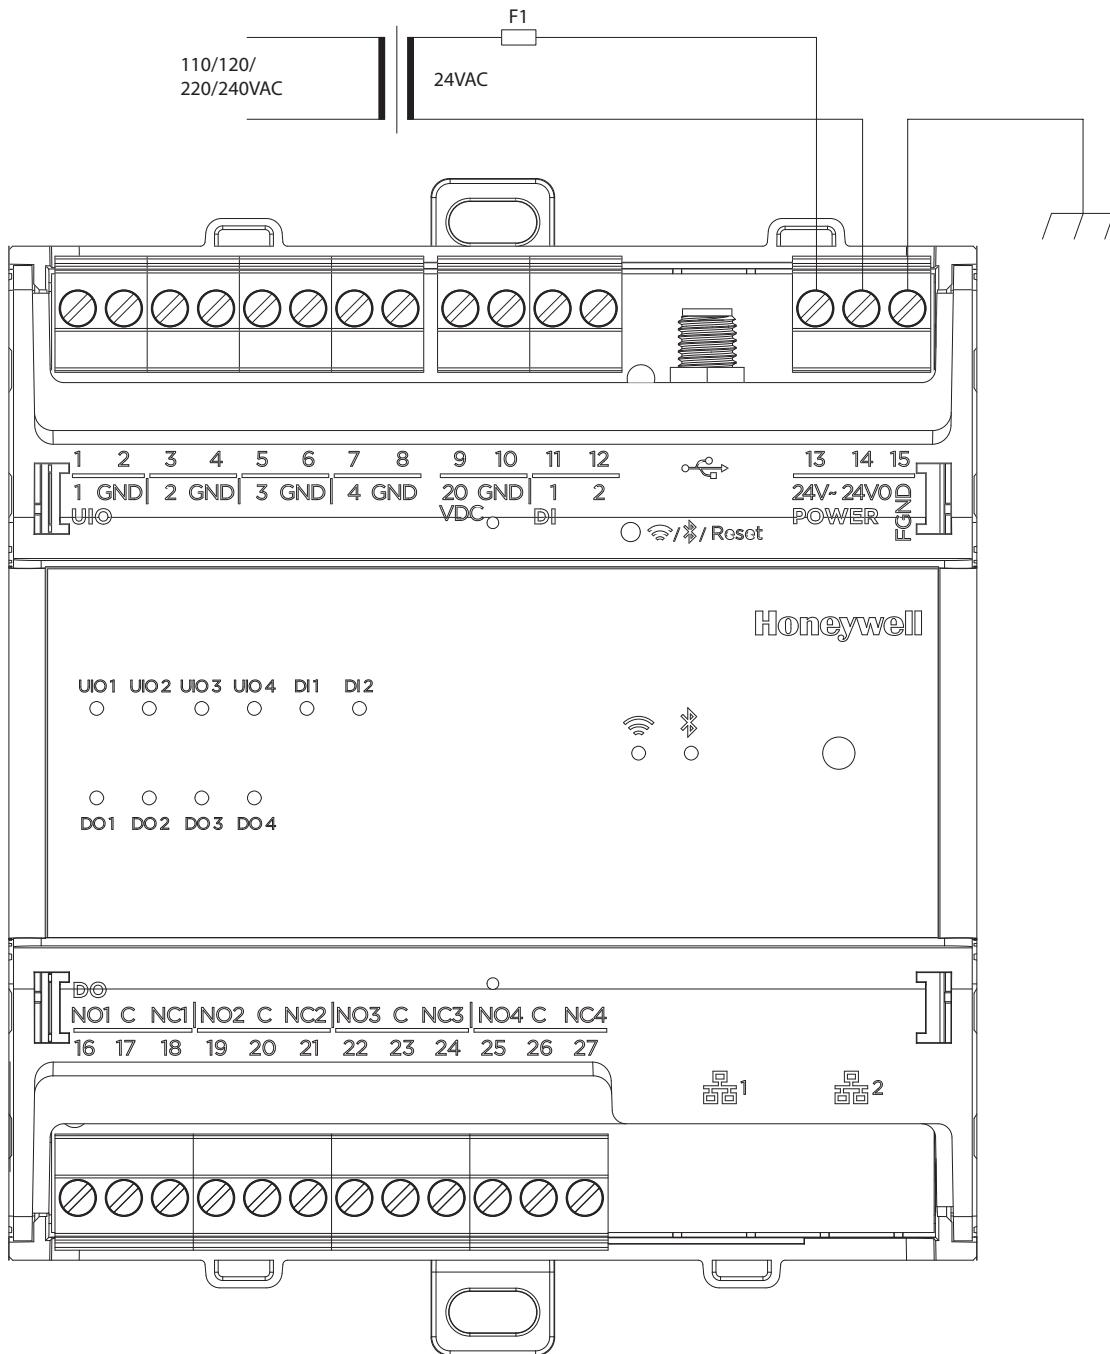

Fig. 2. Power supply Vac
- * Refer to Fig. 2 for AC power supply and Fig. 3 for DC power supply.